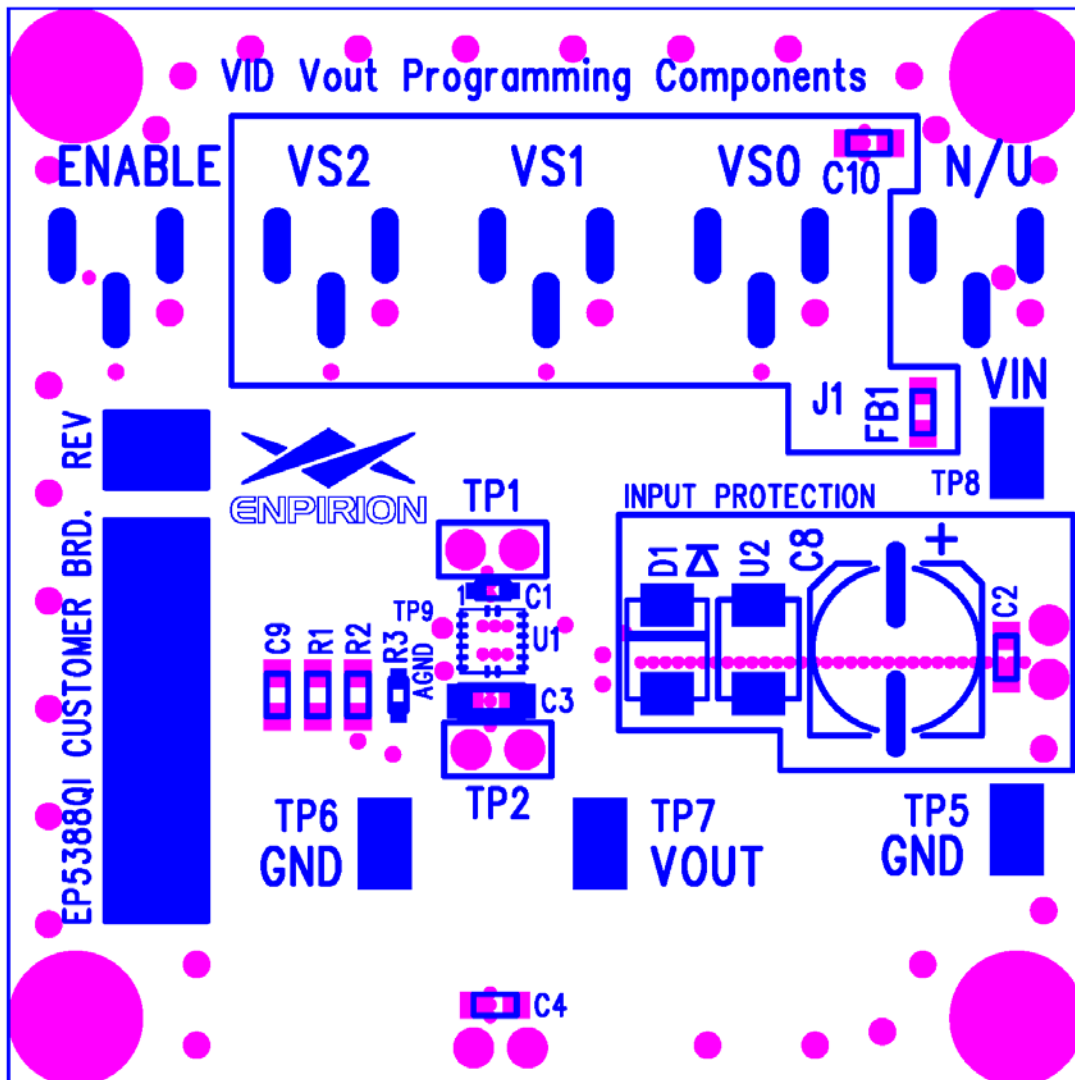

Figure 1. Evaluation Board Layout Assembly Layer
Figure 1 shows a top view of the evaluation board.
STEP 3: Connect Power Supply to the input clip leads, VIN (+) and GND TP5 (-) as indicated in Figure 1. The same test points can also be used to measure the input voltage.
STEP 4: Connect the load to the output connectors VOUT (+) and GND TP6 (-), as indicated in Figure 1. The same test points are also used to measure the DC output voltage.